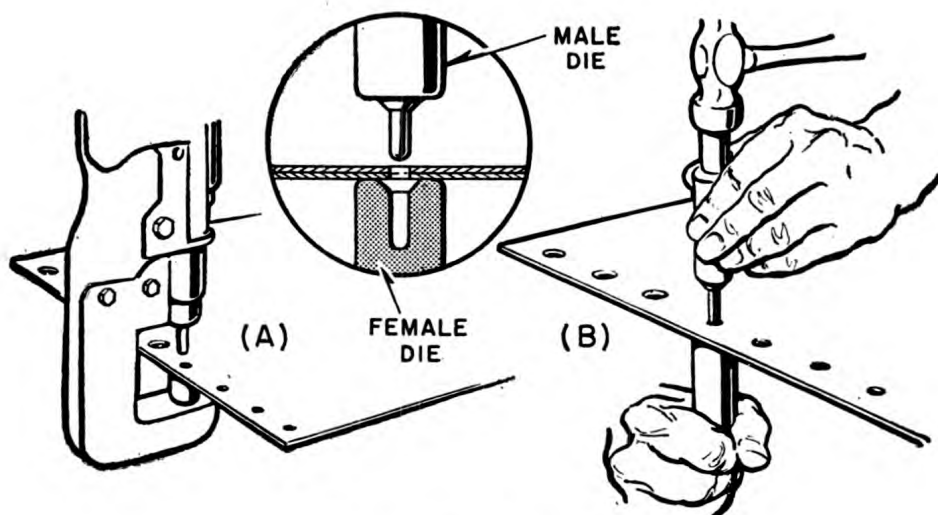

Figure 83.—Dimpling.
Dimpling dies are made in sets of two pieces as in figure 83. One piece is known as the female, and the other, the male part. The angle cut in the female and male dies is 96° for use with the 100° head rivet. The pin diameters of the male dies are as follows.
Dimpling dies for light work can be set up in a portable pneumatic or hand squeezers as in (A) of figure 83. For repair work, the dies can be held by hand as in (B). If the dies are used with a squeezer,